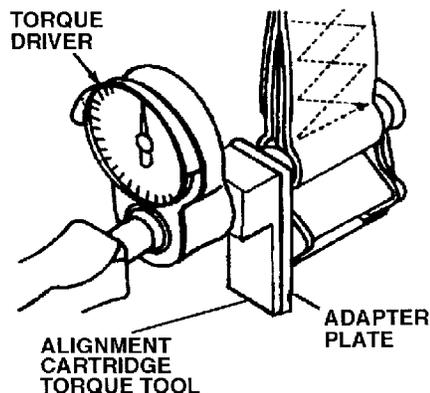

Figure 33. Torque Cartridge
(7) Fit cartridge torque alignment tool to adapter plate.
(8) Torque cartridge 25 to 35 in-lbs. with torque driver (Figure 33). (QA)